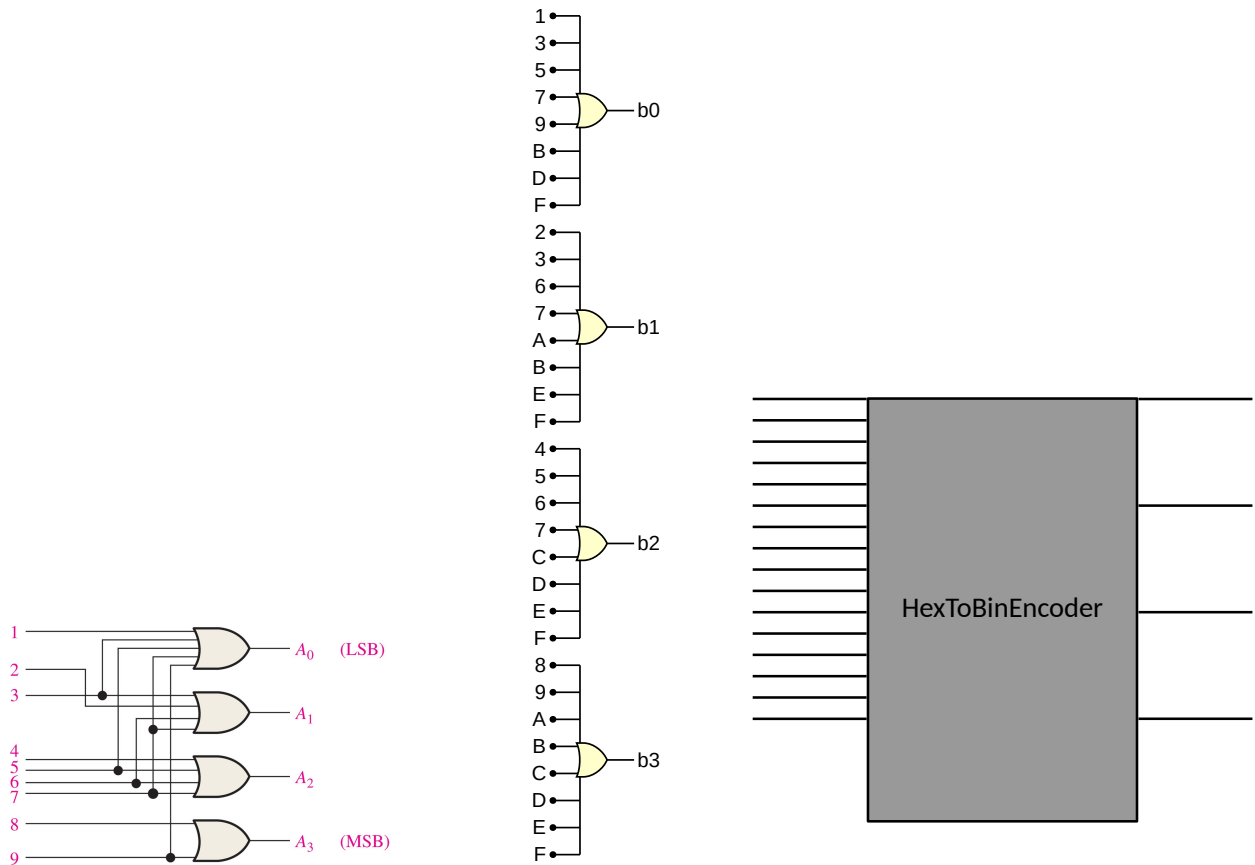

Figure 5: (Left) A decimal to binary encoder circuit. (Middle and Right) Solution to Exercise 4.
- Consider Fig. 5, in which a decimal to binary conversion circuit is shown. (a) Add logic to the circuit such that it becomes a hexadecimal to binary converter. (b) Draw a logic symbol for this circuit with the correct number of inputs and outputs. (c) Connect two hex-to-bin converters to a symbolic 2-to-1 multiplexer with the correct number of data select line(s) to form a system that can send two-digit hex numbers over one output line.